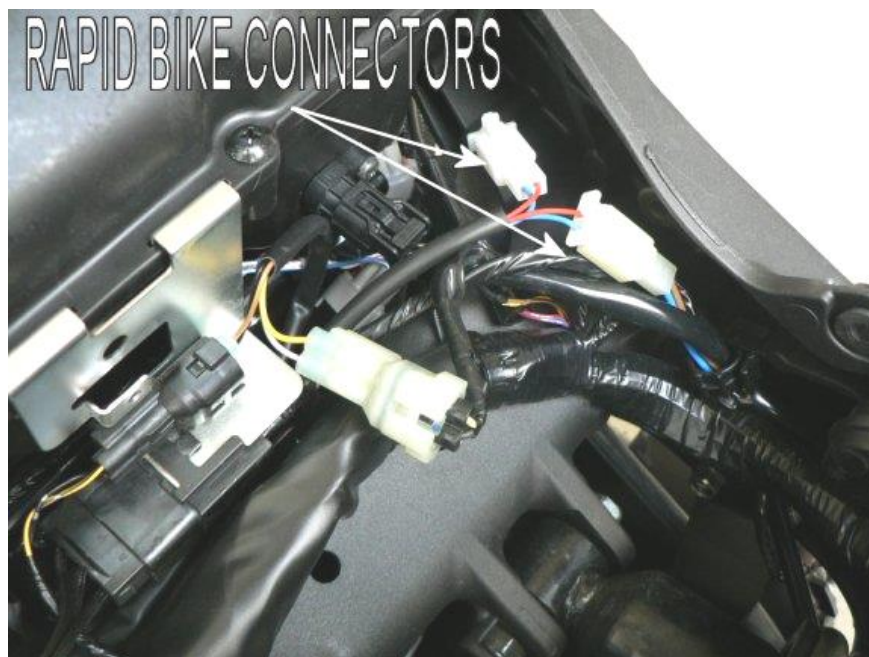

Fig.10
13. **Z 1000 / Versys**: Connect the Rapid Bike white connectors in line with the stock connectors (Fig.10).